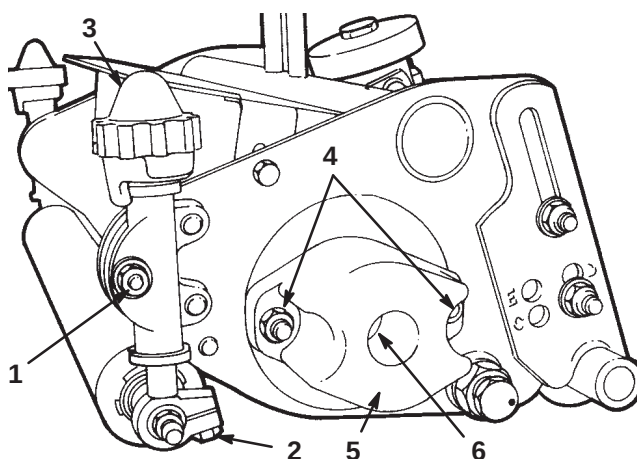

Figure 17
1. Loosen the locknuts securing the height-of-cut adjusting rods at both ends of the cutting unit and the roller shaft clamp bolts (Fig. 17).
2. Turn the height-of-cut adjustment knobs until they are disconnected from the height-of-cut adjusting rods (Fig. 17). The knobs are captivated on the upper washer face of the height-of-cut clamp.
2. The reel bearing drag should be from 5 to 9 in.-lb. (1 N·m) (Fig. 17). This can be measured with a torque wrench.
- A. Remove the mounting nuts from the counterbalance end cap and remove the end cap from the mounting studs (Fig. 17).
- C. With the wrench mounted, hold the reel and tighten the large reel bearing adjustment nut (Fig. 17). Tighten it until the drag on the reel meets the 5 to 9 in.-lb. (1 N·m) specification.
1. Remove the counterbalance end cap (Fig. 17).
2. Remove the large bearing adjustment nut from one end of the reel shaft (Fig. 17) and the special spline nut at the opposite end of the reel shaft.